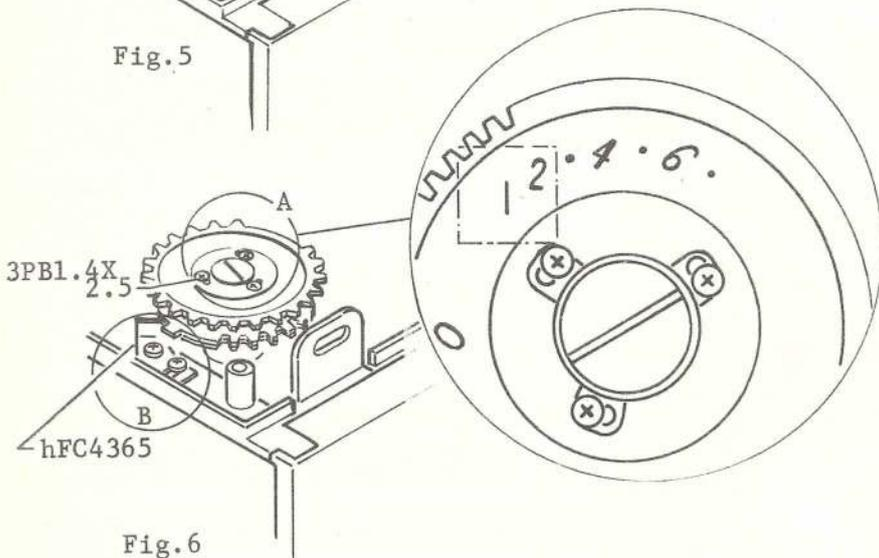

Fig.6
- Adjusting of the above position can be done by moving EFC 4352 after loosening Screws 3PB1.4x2.5. (A) Fig. 6
- When No. 0 does not appear at the center of the window, slide the position of Stopper EFC 4365. (B) Fig. 6